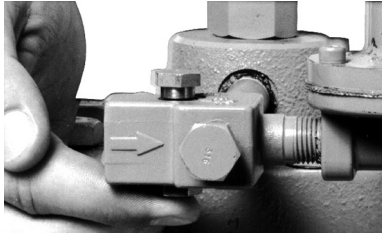

Figure 13. Pushing Groove Valve Up With Retainer
1. Unscrew the groove valve (key 22) and retainer (key 23) just enough to loosen them, but do not completely separate.
2. As shown in Figure 13, push on the retainer (key 23) to push the groove valve (key 22) out of the body (key 21), then complete disassembly.
3. Replace the groove valve O-rings (key 24) if necessary, being sure to lightly apply lubricant to the replacement O-rings before installing them in the groove valve and retainer.
4. Install the groove valve (key 22) into the same side of the body where the scale appears. Install the retainer into the opposite side of the body and tighten until both are secure.